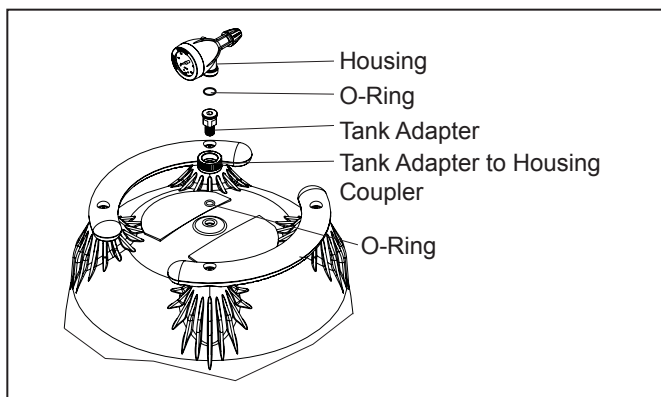

Figure 4. Pressure Gauge/Air Release Assembly
- a. Place the smaller, thicker o-ring onto the threads of the tank adapter (see Figure 4). Slide the tank adapter through the coupling